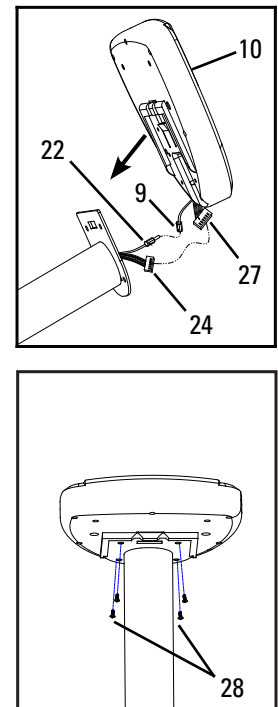

Figure 7A
7-4: Install the Console (10) to Front Post (31) using 4 Flat Head Phillips Screws (28) as shown in Figure 7A.